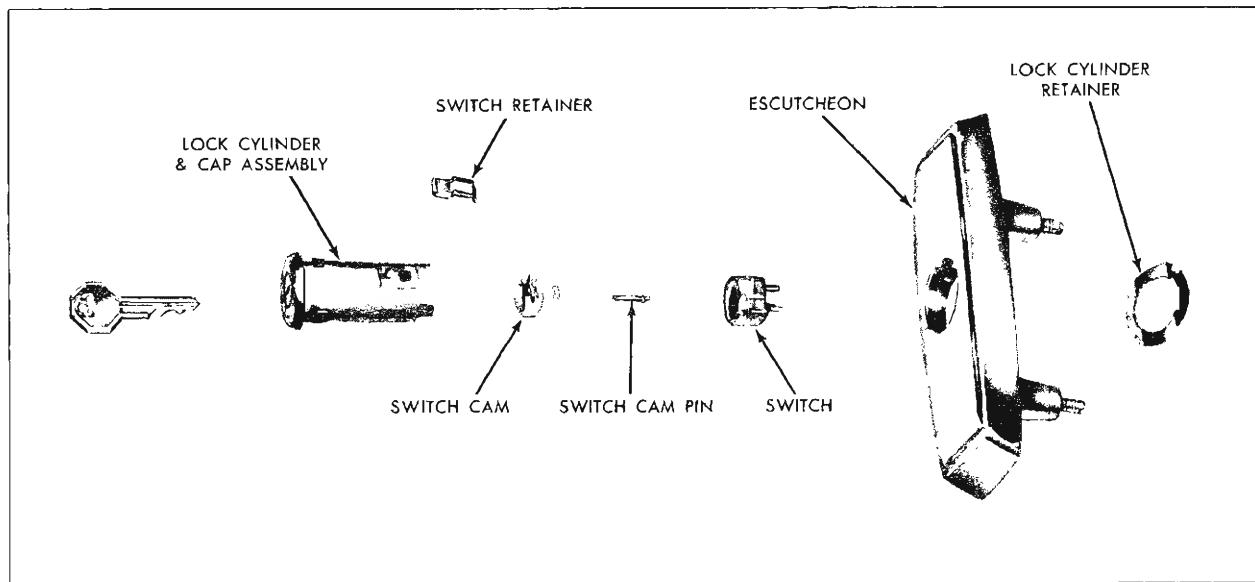

Fig. 5-15 Tail Gate Lock Cylinder, Switch and Escutcheon Assembly
2. Disengage lock cylinder and switch retainer (see Fig. 5-15) and remove lock cylinder and switch assembly from escutcheon.
3. Using a pointed tool inserted through hole in lock cylinder case, depress tab of switch retainer and remove retainer and switch (see Fig. 5-15).
4. Using a suitable pliers, grasp pin of switch cam firmly and pull switch cam straight out from lock cylinder (see Fig. 5-15).